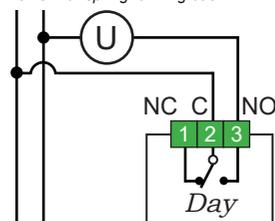

Fig. 2
- Fix the "Basket" in the "Recessed Box" with the appropriate screws supplied (Fig.2).